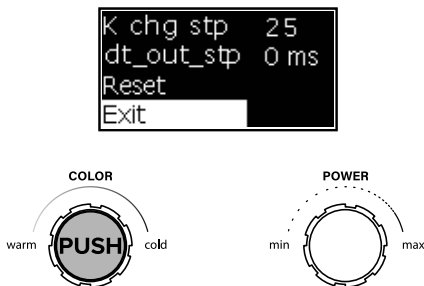

Fig. 35
3. After returning to the **User menu**, select **Exit** to save the settings (Fig. 35).